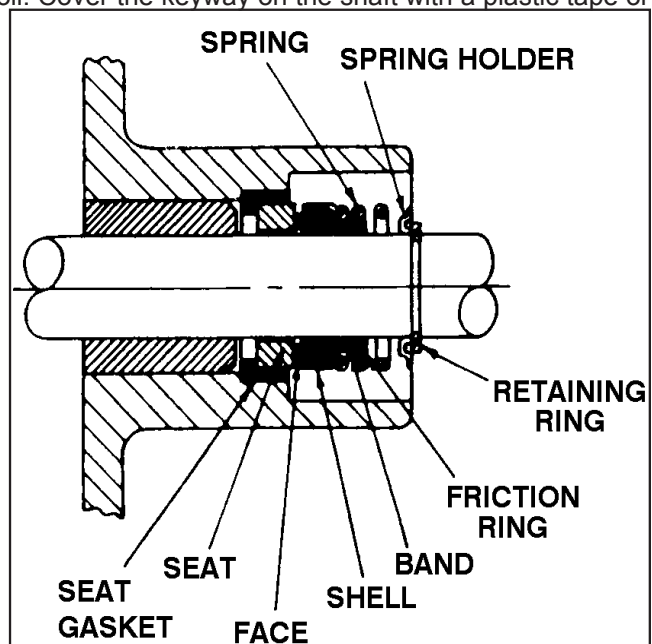

Figure 9. Shaft Seal Assembly
10. Refer to Figure 9 on page 16 and assemble the shaft seal assembly as follows: (a) Apply a light coat of AX vacuum oil to the seat of the shaft seal assembly. Place the seat gasket on the seat and carefully slide the seat and gasket over the shaft into position on the pump. Press in both pieces until they are seated uniformly against the shoulder. Do not damage the gasket or mar the face of the seat. (b) Coat the rotating portion of the shaft seal (face, shell, bank, and friction ring) with AX Vacuum Oil. Cover the retaining ring groove and the keyway on the shaft with plastic tape or by forming a thin piece of metal over the shaft. Coat the shaft and the metal cover with oil. Carefully push the rotating portion of the shaft seal over the shaft by means of a pipe sleeve or a large washer. Be careful not to damage the seal face or cut the rubber. Remove the cover from the shaft. (c) Place the spring and the spring holder on the shaft and compress the spring beyond the retaining ring over the shaft until it snaps into its groove. Assemble the discharge valve, valve block; two valve springs, and the two valve guide rods on the cylinder, replacing them in the same position as they were removed.